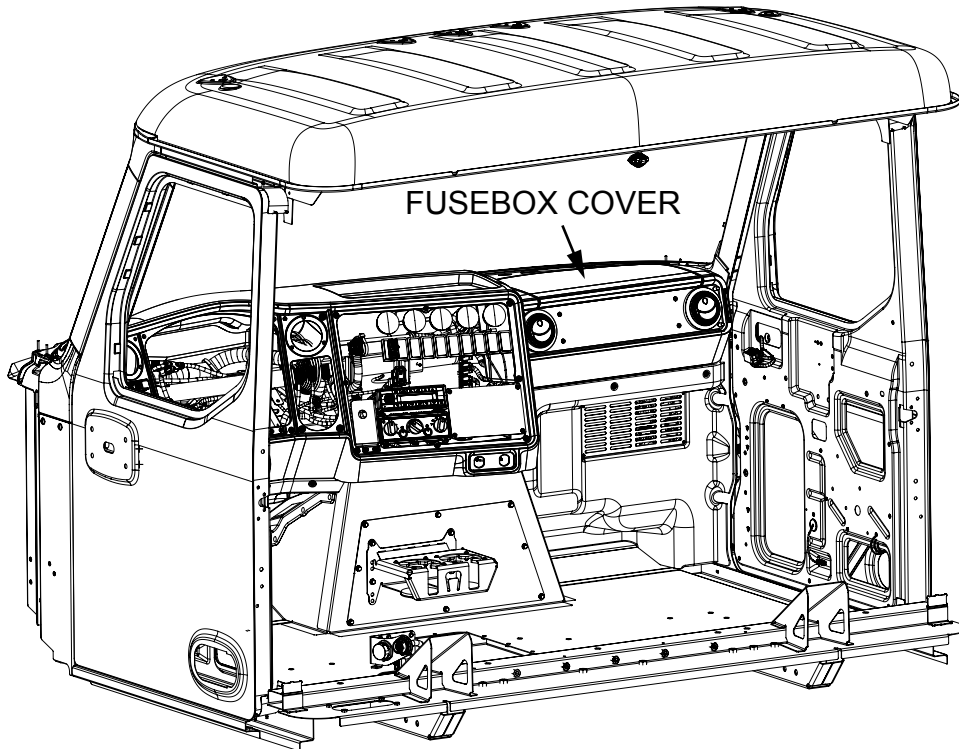

Figure 2
4. Locate and remove the fusebox cover and set aside for reinstallation (see *Figure 2*).